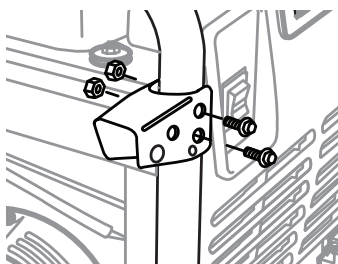

FIGURE 11: Handle Bracket to Frame
1. Hold handle pivot bracket over pre-drilled holes on frame as shown in Figure 11.